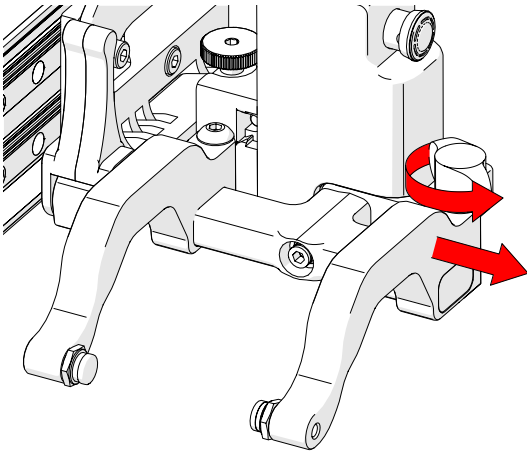

Fig. 74 - Remove outer arm
3. Loosen the probe holder adjustment knob and remove the outer probe holder arm (Fig. 74).
5. Place the wedge on the pivot button of the inner probe holder arm (Fig. 74).